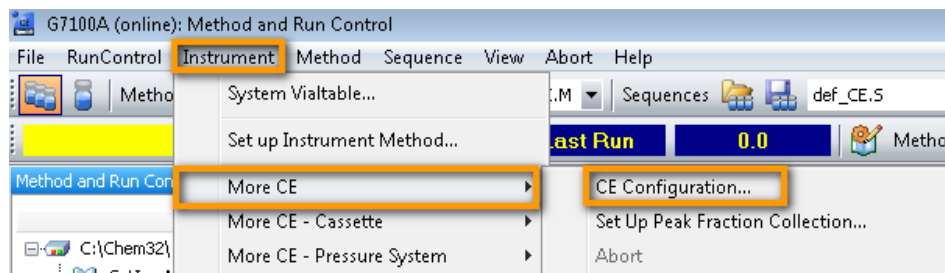

Figure 41 Configuration menu
- 5 From the instrument control screen select **Instrument > More CE > CE Configuration**, see Figure 41.